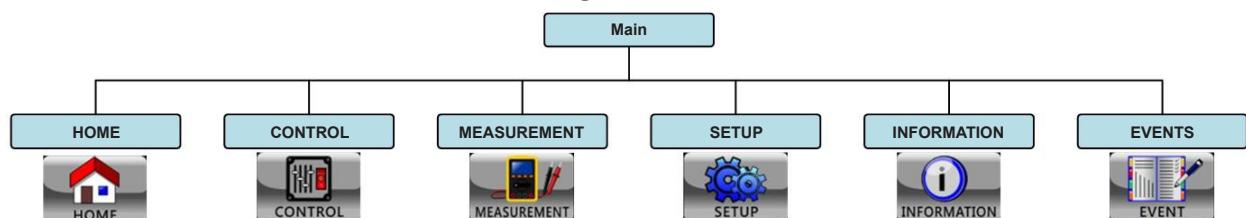

Figure 4.4 Menu Tree
- 3 Main Menu:** Touch each icon to enter submenu. Refer to Figure 4.4 for menu tree.